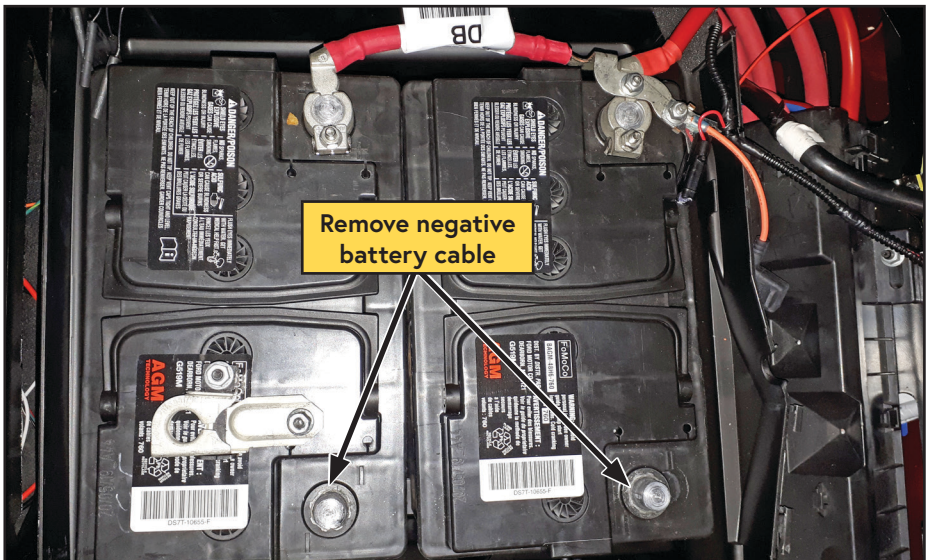

Figure 10 — Battery cables
- ❑ Disconnect the negative battery cable(s) from the battery terminal stud (Figure 10).